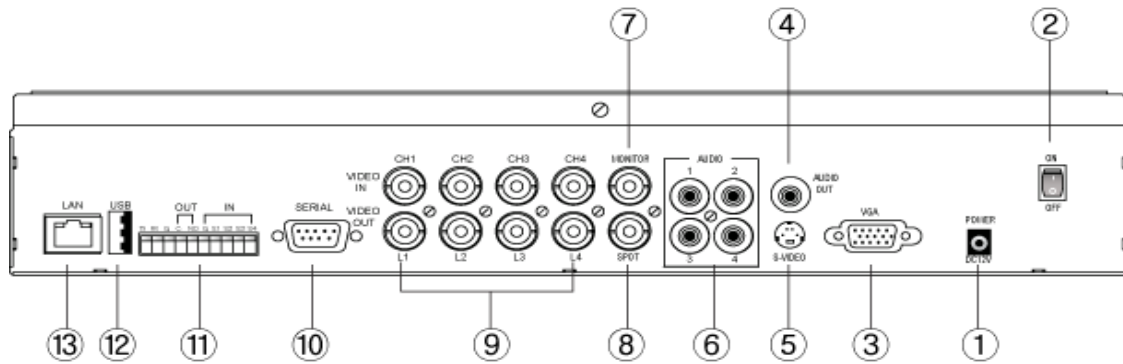
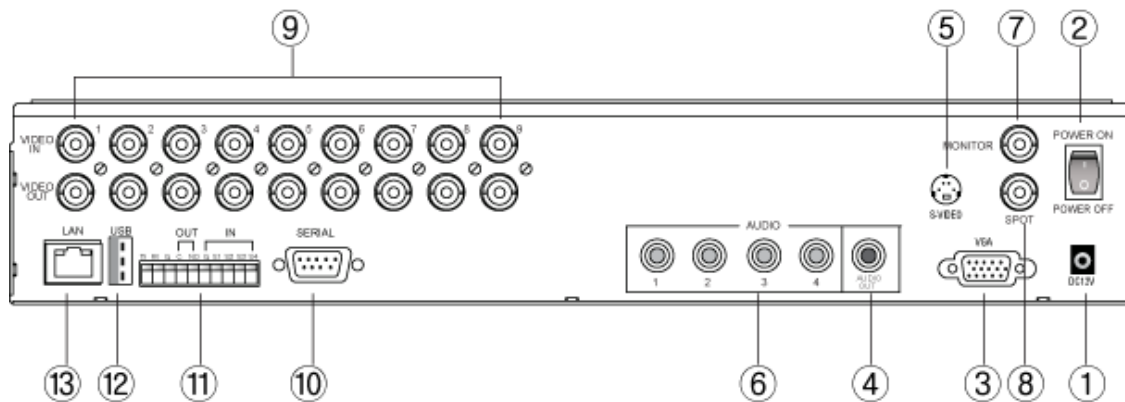

Figure 1 (4ch Model)
Figure 2 (9ch Model)
[Please refer to the Figure 1 (4ch Model), Figure 2 (9ch Model), Figure 3 (16ch Model) item marked “①” Power input].
[Please refer to the Figure 1 (4ch Model), Figure 2 (9ch Model), Figure 3 (16ch Model) item marked “③” VGA Port].
[Please refer to the Figure 1 (4ch Model), Figure 2 (9ch Model), Figure 3 (16ch Model) item marked “(7)” Main Monitor Output].
[Please refer to the Figure 1 (4ch Model), Figure 2 (9ch Model), Figure 3 (16ch Model) item marked “(8)” SPOT Monitor Output].
[Please refer to the Figure 1 (4ch Model), Figure 2 (9ch Model), Figure 3 (16ch Model) item marked “⑨” Camera Input / Video Loop Out].
[Please refer to the Figure 1 (4ch Model), Figure 2 (9ch Model), Figure 3 (16ch Model) item marked “⑩” Serial Connection].